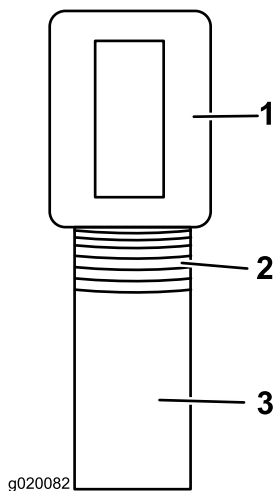

Figure 2
1. Remove the tape and the tube from the upper pole (Figure 2).